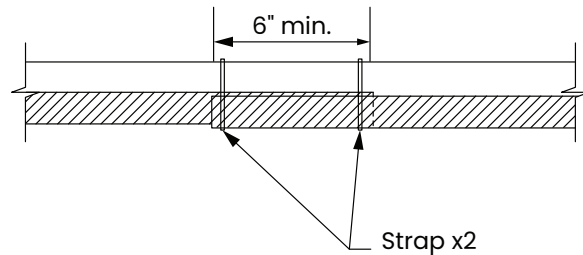

Figure 6-8: Strapping overlaps
Uponor PEX-a Pipe Support is secured to the bottom of the PEX pipe using the three (3) included straps. The straps are nylon and feature a 120-lb. tensile rating. If the straps are misplaced, use straps of equal or greater strength in their place. Straps should be spaced every 3 feet (0.9 m) maximum. Refer to **Figure 6-8** for strapping at overlaps.